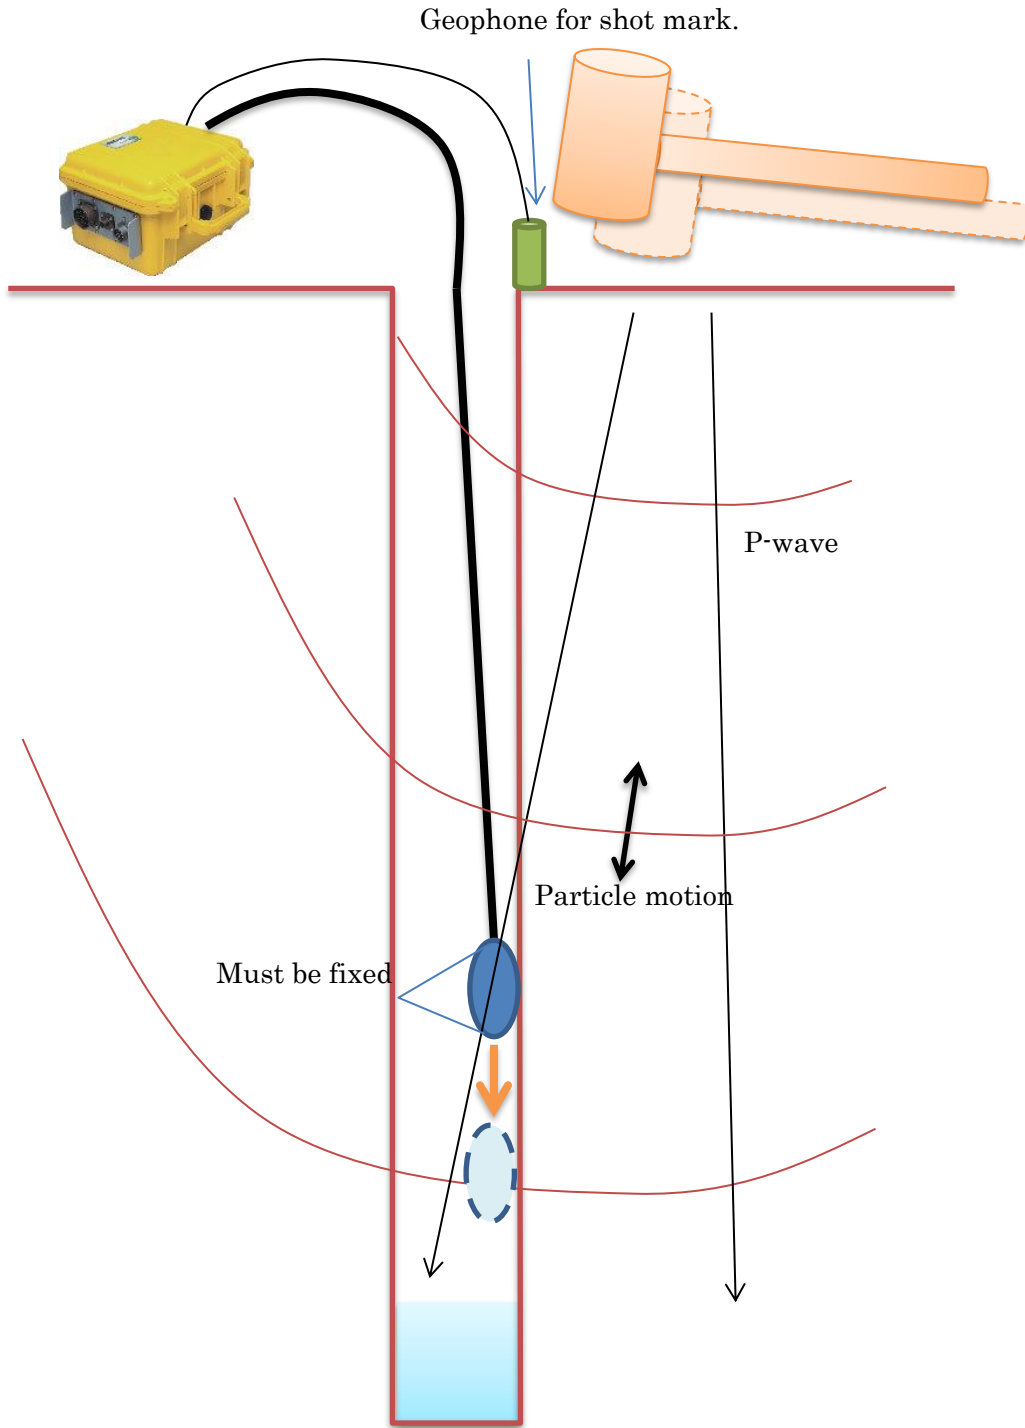

Figure 6. P-wave data acquisition using single channel receiver.
B) P-wave data using a single channel receiver (Figure 6).